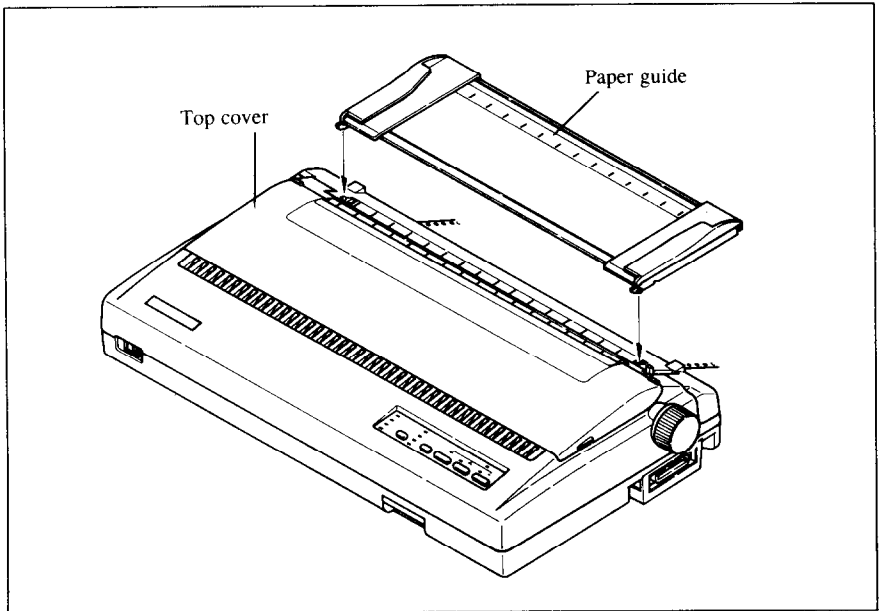

Figure 1-14. Mounting the paper guide for fanfold forms
12. Mount the paper guide in the horizontal position shown in Figure 1-14, so that it will separate the printed from the unprinted paper.